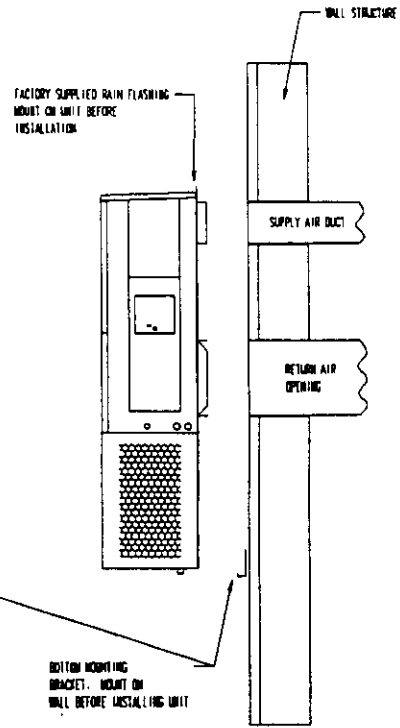

Figure 6 — Wall-Mounting Instructions
Five (5) wires should be run from thermostat subbase to the 24V terminal board in the unit. A five conductor, 18 gauge copper, color-coded thermostat cable is recommended. The connection points are shown in Figure 6.